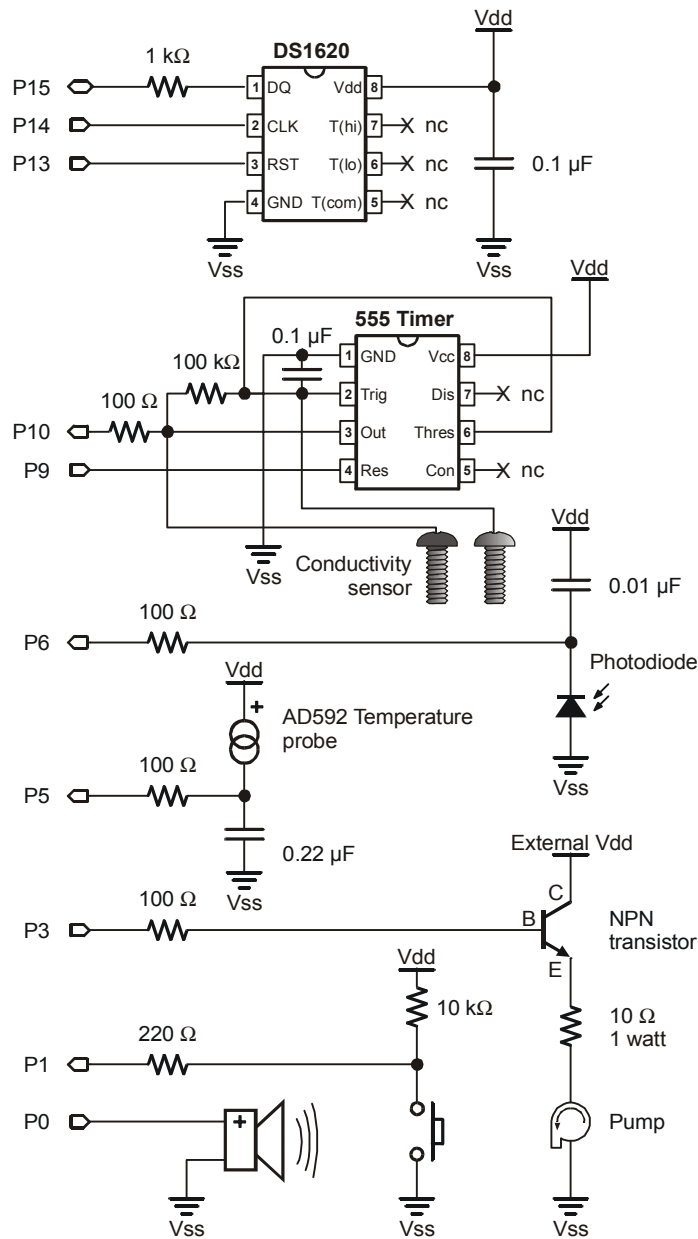
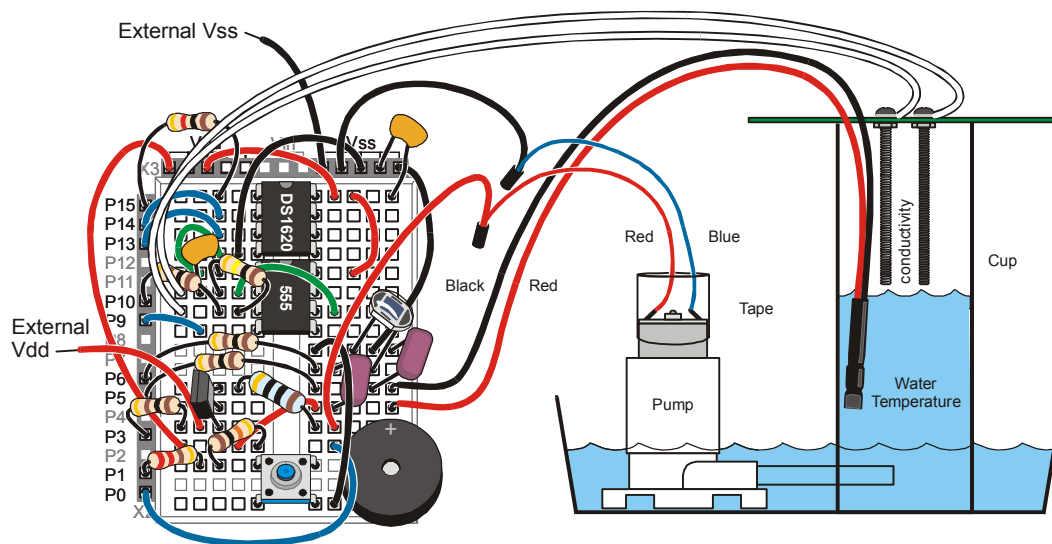

Figure 6-4
Figure 6-5: Pump Control with Transistor Wiring Diagram for the HomeWork Board
- ✓ Follow the schematic in Figure 6-4 and the wiring diagram in Figure 6-5 to add the transistor and pump circuit to your HomeWork Board.
- ✓ As shown in the schematic in Figure 6-5, connect the collector of the transistor to the external regulated 5 VDC 300 mA power supply.